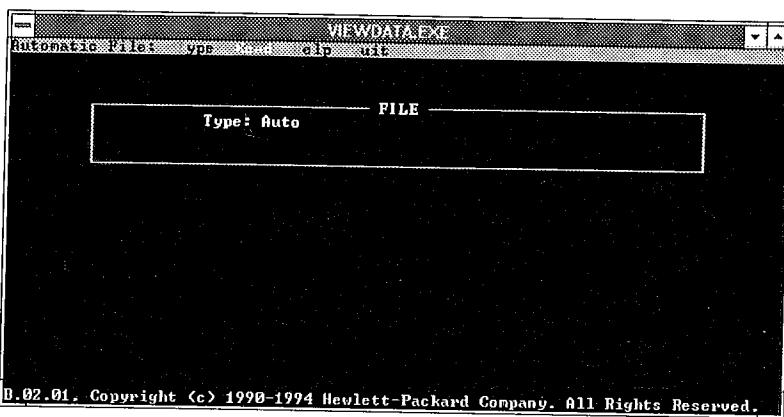

Fig. 8B File screen
- Step 8. Specific data can now be displayed from a chosen file. To select a file, first press <Enter> to choose the "File" option. The screen shown in Fig. 8B then appears.